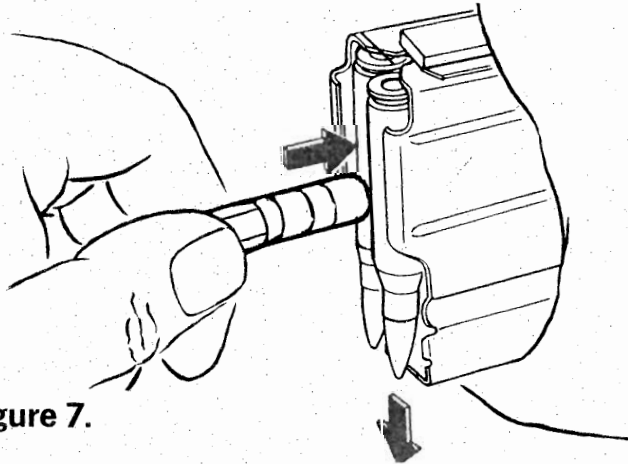

Figure 7.
d. **UNLOADING THE MAGAZINE** — When emptying the magazine, follow this procedure to avoid damaging the lips of the magazine: Depress the center of the second cartridge in the magazine with the end of a pencil or similar object as shown in Figure 7 and the top cartridge can be dropped out of the magazine. Repeat this procedure until the magazine is empty.